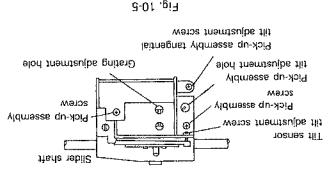

Fig. 10-5
8. Remove the Pick-up assembly from the Mechanical assembly. (Fig. 10-5)